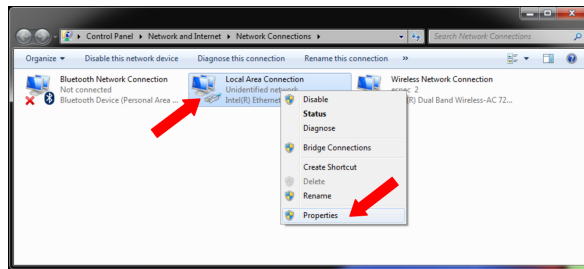

Figure 2.3: Selecting the right Local Area Connection
3. Point and Right-Click the "Local Area Connection" icon, then click Properties from the drop-down menu (see Figure 2.3). Verify that the correct Ethernet port is selected, if your PC has multiple ports.